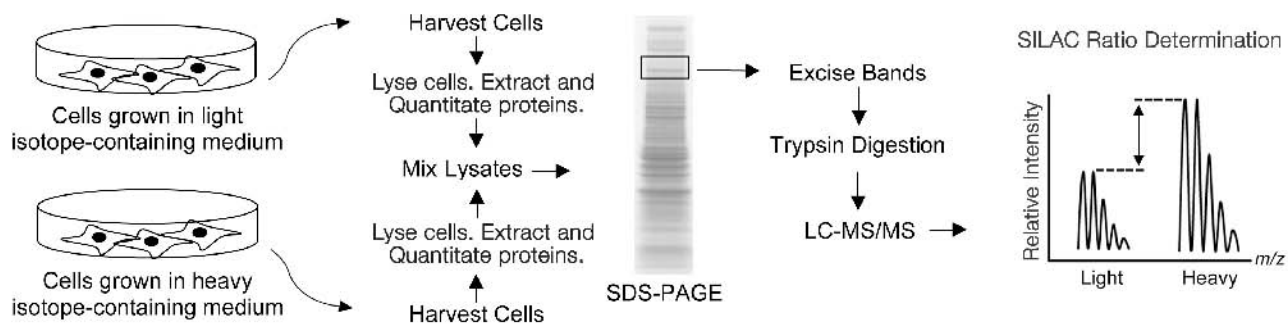

Figure 1. Schematic of SILAC Workflow
The SILAC workflow is shown schematically in Figure 1. Equal concentrations of cell lysate from both cell populations are combined for sample processing and subsequent protein separation by SDS-PAGE. Proteins are digested with trypsin to generate peptides for mass spectrometry (MS) and quantitation of isotopic peptide pairs. CIL's SILAC Kits allow MS identification and quantitation of low-abundance proteins, cell-surface or organelle-specific proteins, and post-translational modifications such as phosphorylation or glycosylation.